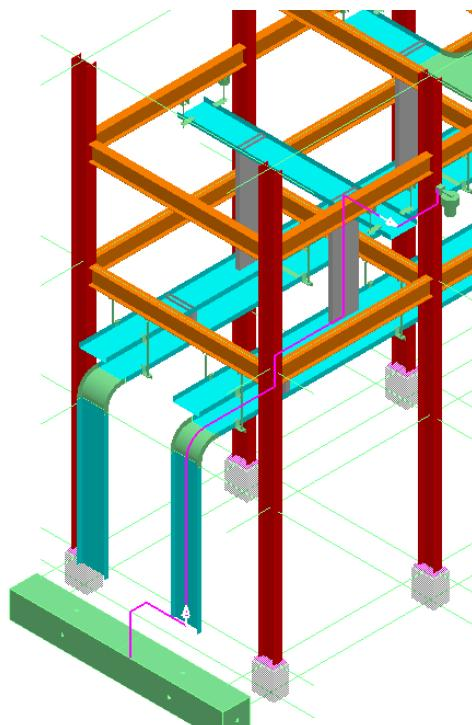

Figure 38: Proposed Contiguous Cable Path – CBL-001A
16. The SP3D displays the proposed contiguous cable path for the cable, as shown in the highlighted section of Figure 38.